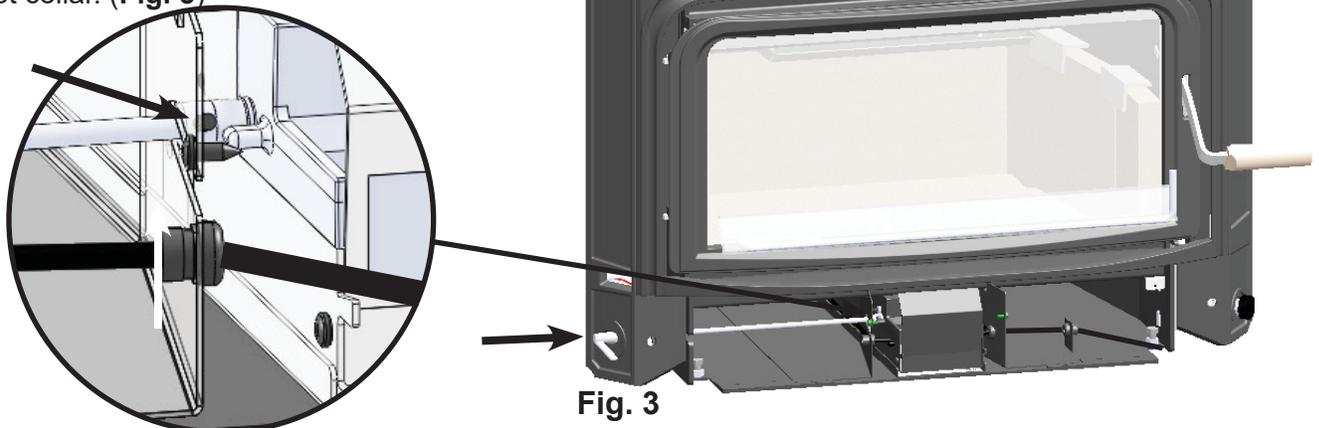

Fig. 3
4. Slide thermostat rod in from side of cast, then align machined faces of rods and secure with the set collar. (**Fig. 3**)